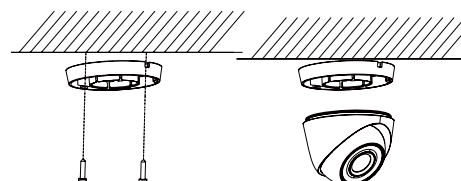

Figure 2-10 Fix the Mounting Base to the Ceiling
3. Fix the mounting base to the ceiling with 2 PA4 screws, as shown in Figure 2-10.